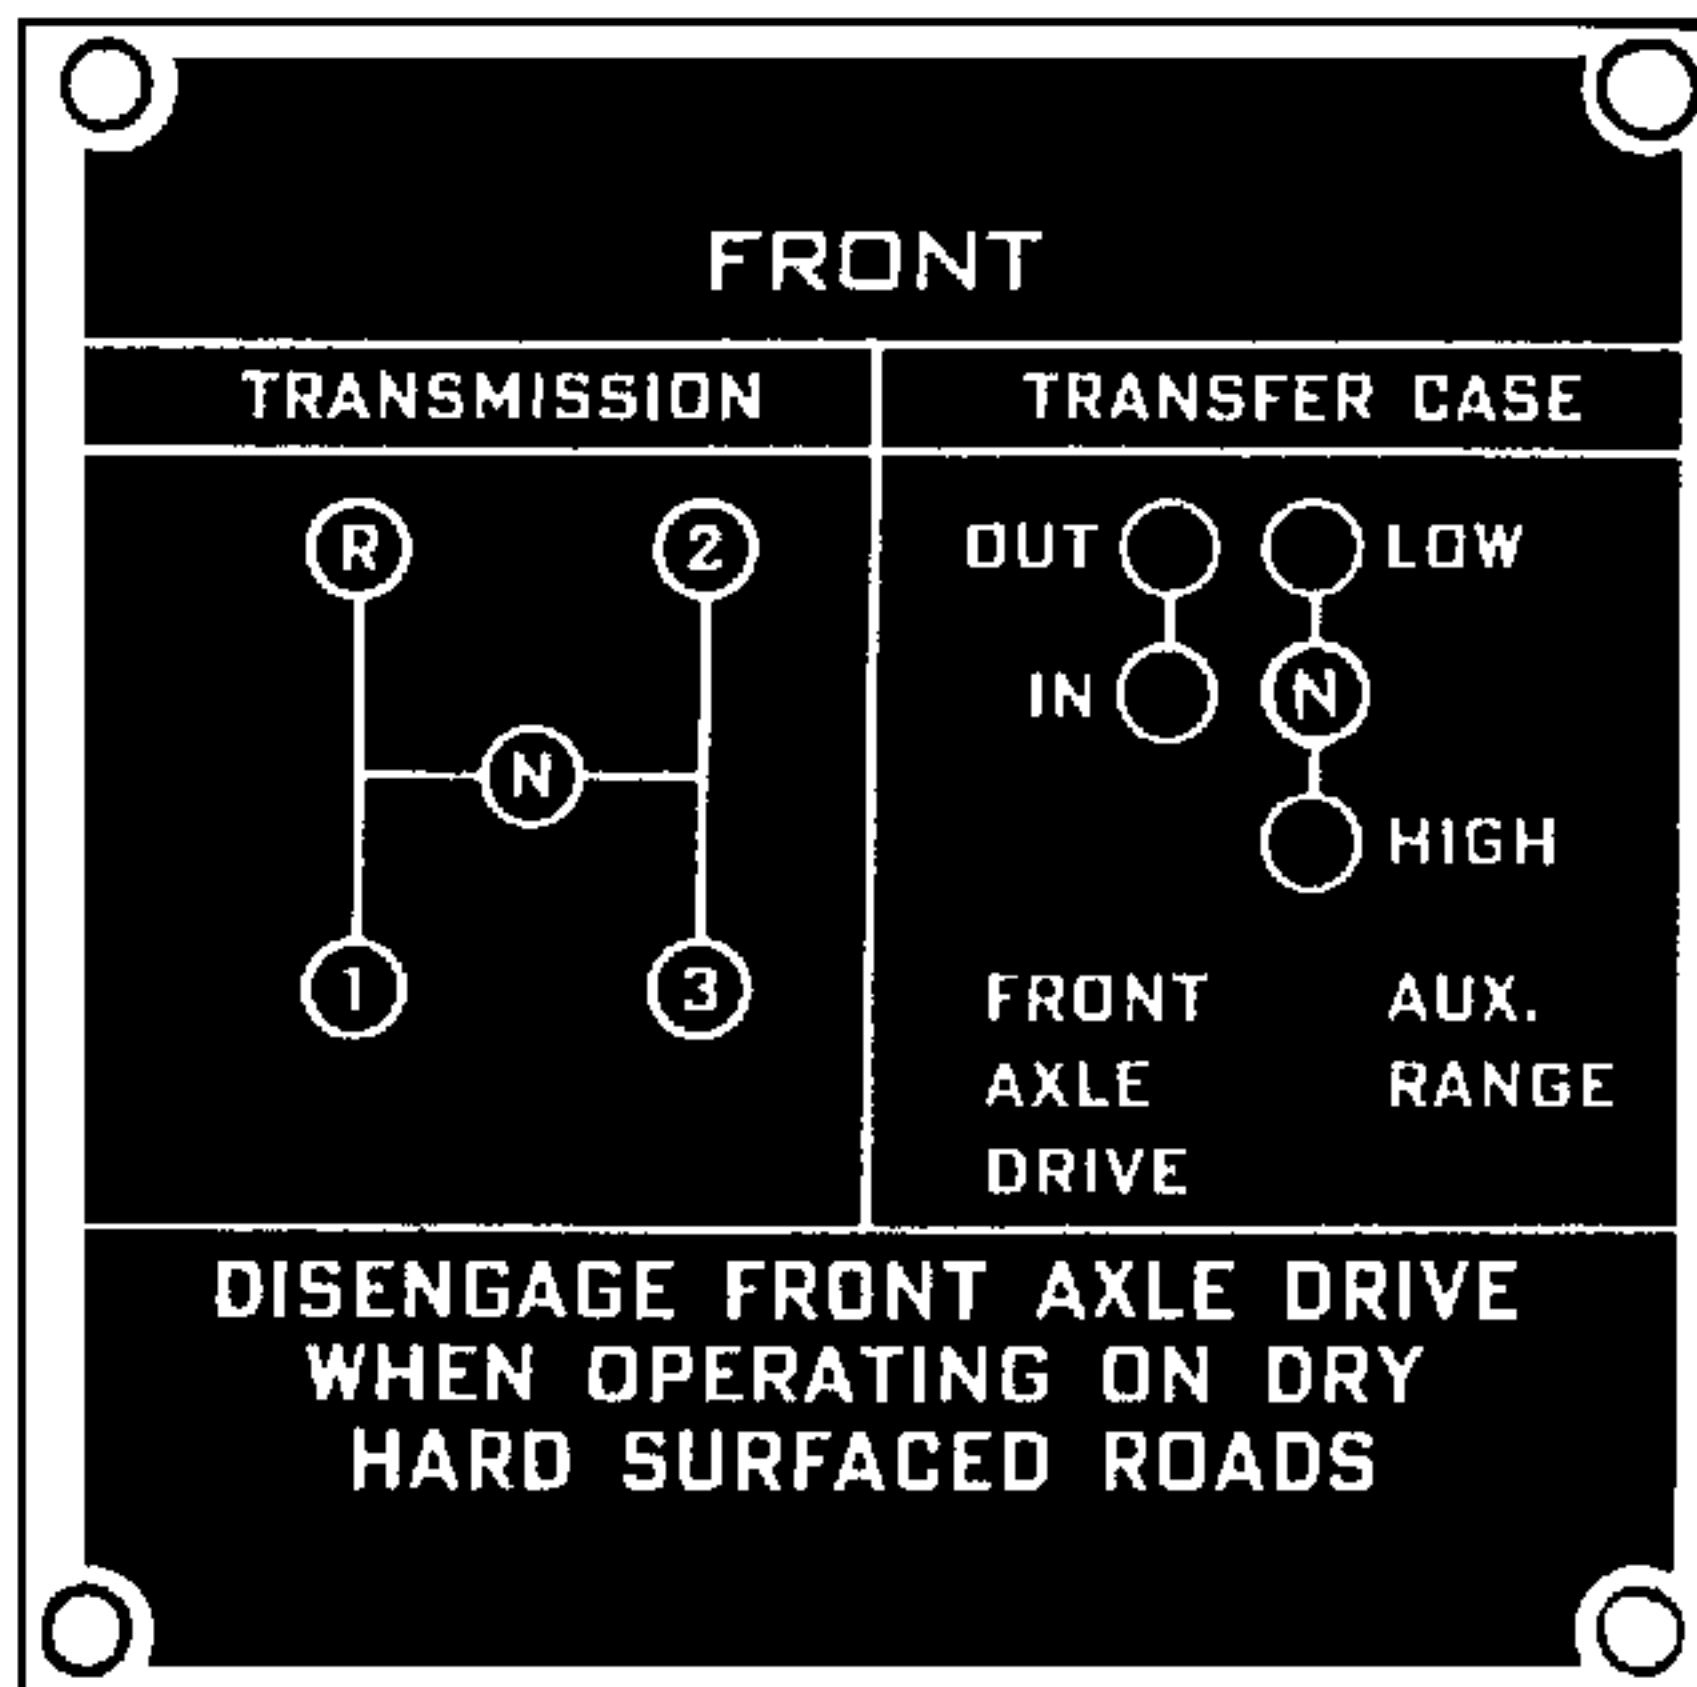

FIG. 4—SHIFT PLATE
Transfer Case Shifting Instructions—Fig. 4
Proper position for disengaging axles to use power take-off unit is shown as "N" in Fig. 4.
This lever is used to shift the gears in the transmission. There are four positions in the movement of the lever in changing the gears in transmission. See diagram for lever location in different gears. Fig. 4.
1. Transmission gearshift lever must be in neutral position. See Fig. 4.
3. Move transmission shift lever toward driver and back for first gear. Fig. 4.
Instructions for shifting gears in transfer case and engagement of the front axle drive are as follows: No. 21, Fig. 1 and Fig. 4.
2. When vehicle speed has been reduced to idling engine speed, disengage clutch and move transmission shift lever, No. 18, Fig. 1 to neutral position. See Fig. 4.
2. Shift transmission lever to the left and forward toward instrument board. Fig. 4.